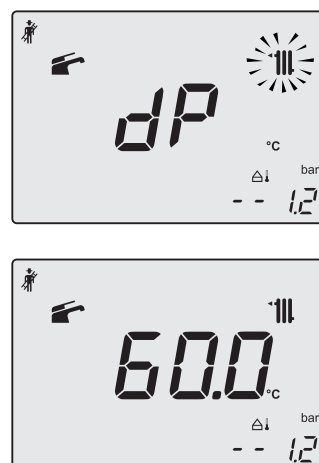

Figure 11.9
- 21 Press further key "G" to vary again the output in chimney sweep mode: when the display shows the letters **DP** that alternate with the heating water temperature value (e.g. 60), the "chimney sweep function" is at maximum output in domestic hot water mode" (Figure 11.9);